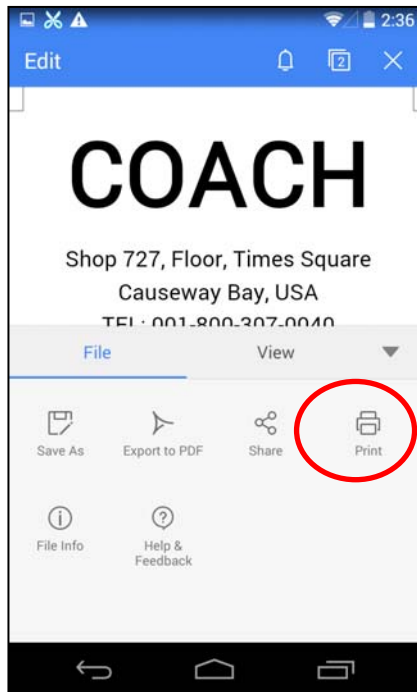

Figure 27
4.3 When the menu pops up, select "Print", as shown in Figure 27.